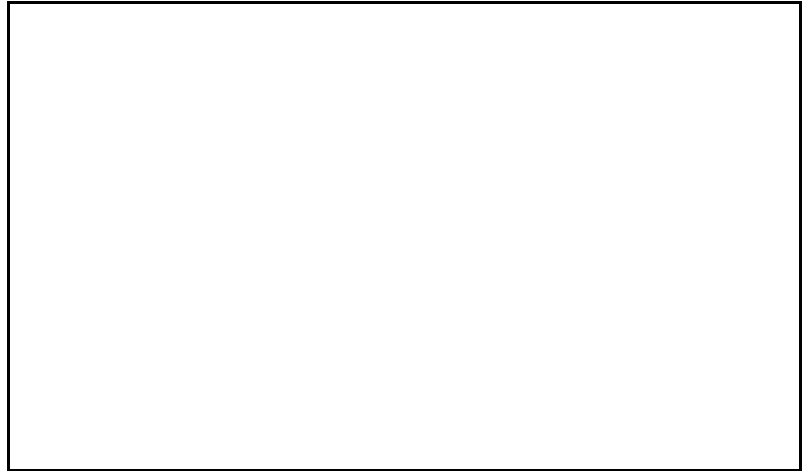

Fig. 3: Mounting dimensions NF 1.25 DC
- Mounting dimensions (see Fig. 3 and 4)